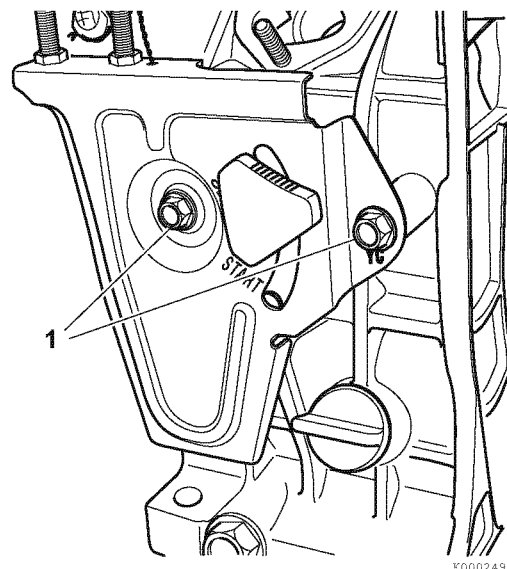

Figure 6-82
- Remove the bolts (1, **Figure 6-82**) that retain the speed control assembly.